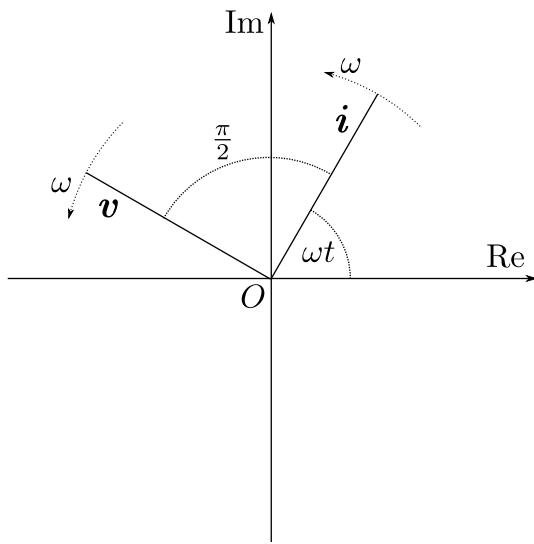

Figure 6: Voltage and current phasors for the **inductor** in the circuit in Figure 7.
- ii) *Phase*: the current and voltage waveforms of an inductor are $\frac{\pi}{2}$ (90°) out of phase, but in the opposite sense to a capacitor. Here, the voltage '*leads*' the current by $\frac{\pi}{2}$. This results from the $e^{j\frac{\pi}{2}}$ term in Eq. (19) and can be illustrated using the phasor representation on the Argand diagram in Figure 6.